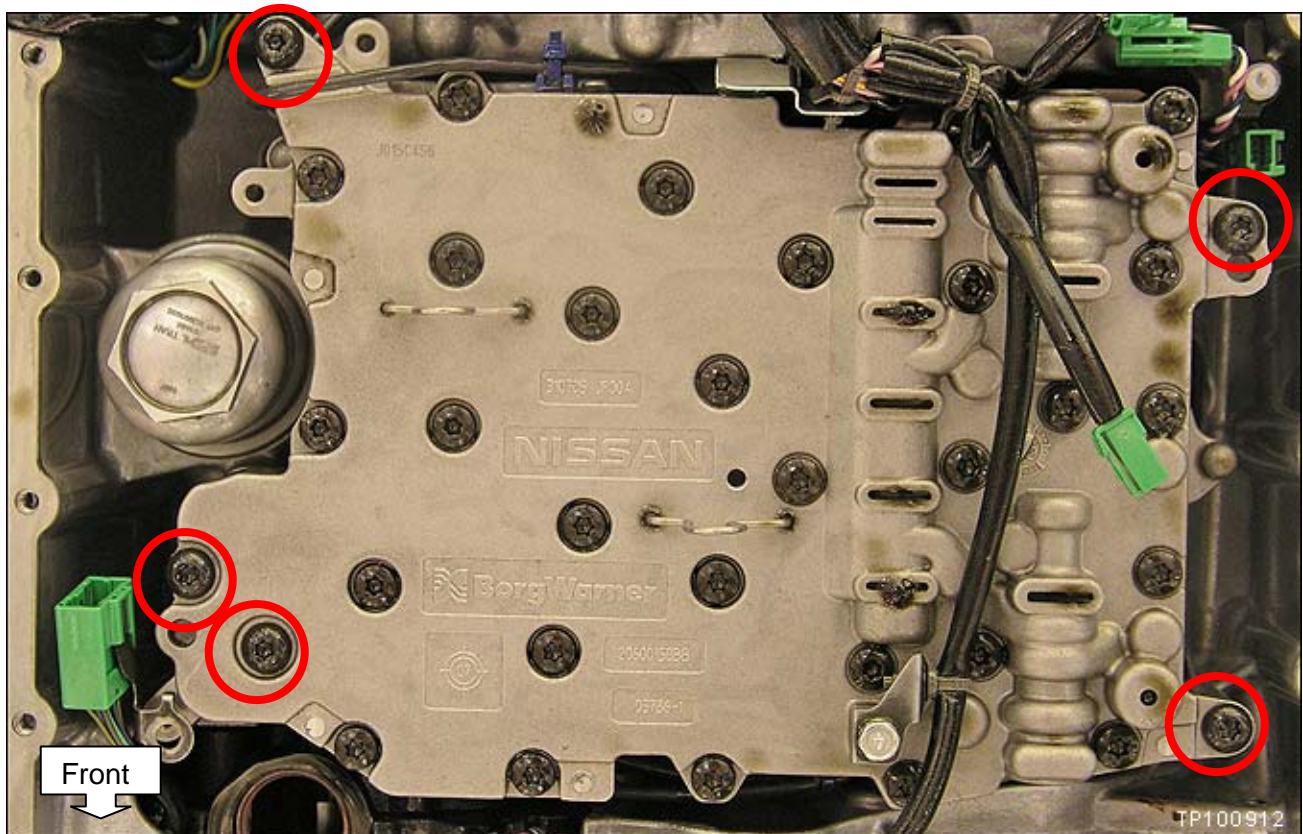

Figure 11
- Remove only the 5 bolts (T30 Torx®) circled in Figure 11.
- **Remove only the bolts circled in Figure 11.** Removal or loosening of any other ACM bolts will make the ACM unusable.